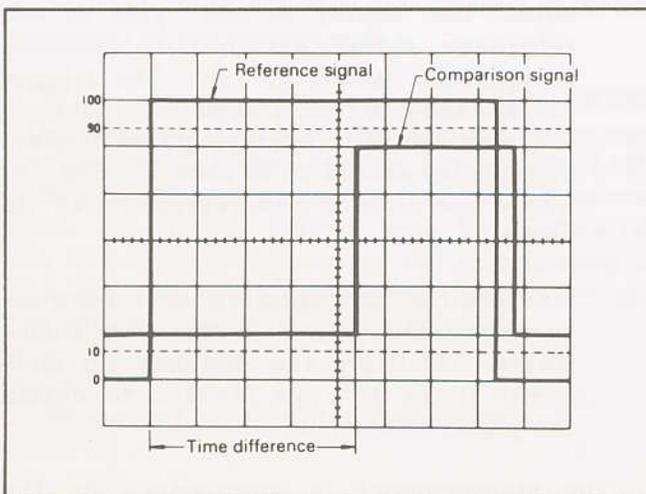

Fig. 13. Time Difference Measurement.
(Refer to Fig. 13)
3. Use the vertical POSITION controls to superimpose both waveforms to intersect the center horizontal graduation line as shown in Fig. 13. Use the horizontal POSITION control to set the reference signal coincident with one of the vertical graduation lines.
For the example shown in Fig. 13, the horizontal distance measured is 4.4 divisions. If the SWEEP TIME/DIV is 0.2 ms and X10 MAG is not used, the time difference is calculated as follows: